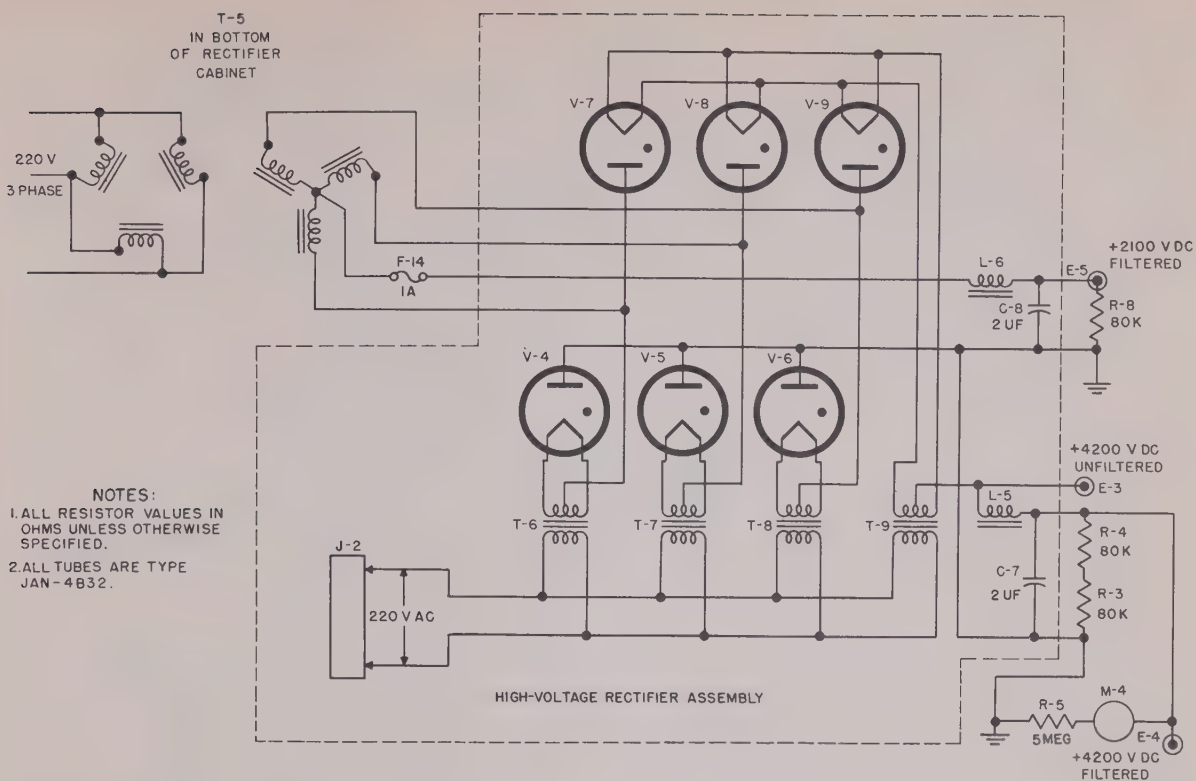

Figure 50. Rectifier Power Unit Model 36D, simplified schematic diagram of high-voltage rectifier
e. High-Voltage Rectifier (fig. 50).
dary of T-5 and the plate of V-8, and the center tap of T-8 is connected to the remaining winding on the secondary of T-5 and the plate of V-9. The common point of the three secondary windings of T-5 is used to furnish the 2,100-volt plate supply and is connected to the choke input filter. The plates of V-4, V-5, and V-6 are connected directly to ground and these tubes operate as a half-wave rectifier for the 2,100-volt supply. The center tap of T-9 is used as the positive side of the 4,200-volt supply. Since the plates of V-4, V-5, and V-6 are grounded, and the plates of V-7, V-8, and V-9 are connected to the windings on T-5 and the cathodes of V-4, V-5, and V-6, full-wave rectification of the three-phase power is obtained (fig. 50). Choke L-5 and capacitor C-7 form a filter network for the 4,200-volt supply. Resistors R-3 and R-4 are bleeder resistors that discharge C-7 when equipment is shut down. A connection is made between the center tap of T-9 and choke L-5 to furnish the unfiltered 4,200-volt supply. The full-wave rectifier is capable of supplying 3 amperes at 4,200 volts dc. Choke L-6 and capacitor C-8 form a filter network for the 2,100-volt supply. Resistor R-8 is connected between the 2,100-volt line and ground and discharges C-8 when the equipment is shut down. Resistor R-5 is a meter multi-